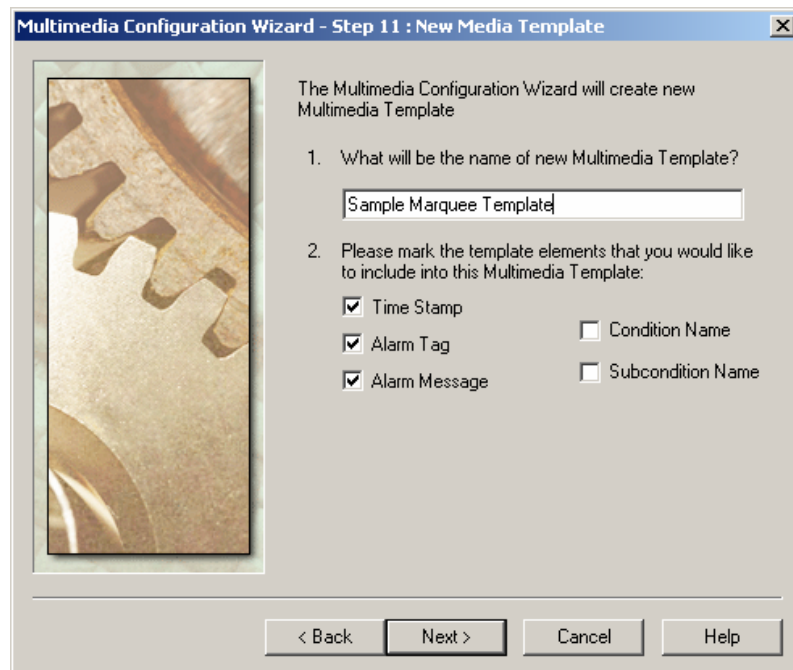

Figure 3.12. Step 11: Creating a New Media Template
- In Step 11, enter a name for the template and select the alarm components to be delivered to the multimedia agent, as shown in **Figure 3.12**. For some agents, additional options will be available to you.